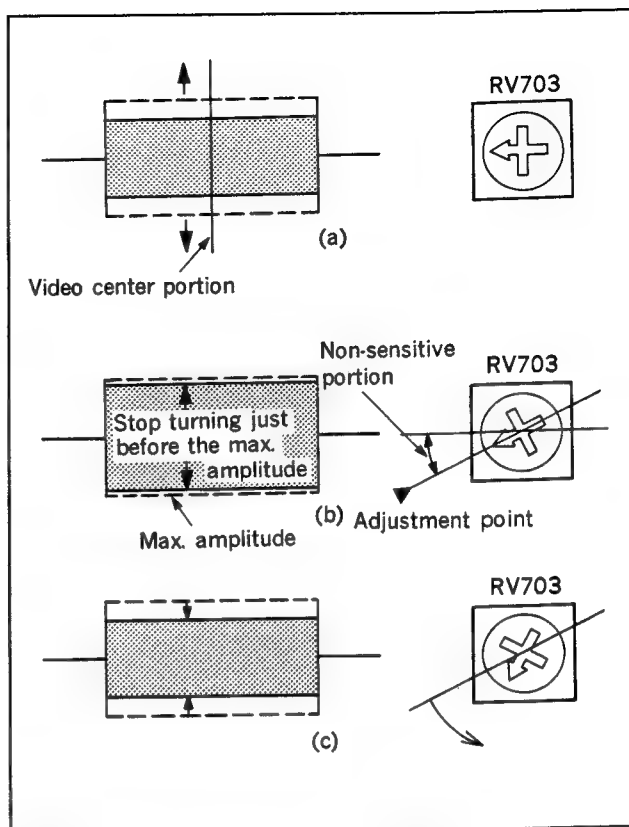

Fig. 6-9-10 RF wave form confirmation by RV703 adjustment
5. Play back the recorded portion at step-1 of the tape, maximize the RF wave shape (video center portion) by using RV703 on SST-2 board. (See Fig. 6-9-10 (a).)
6. Turn RV703 to counterclockwise direction, and confirm the RF wave shape decreases. (See Fig. 6-9-10 (c).)
7. Turn again RV703 to clockwise direction, and stop the turning just before the maximum amplitude of the wave shape. (See Fig. 6-9-10 (b).)